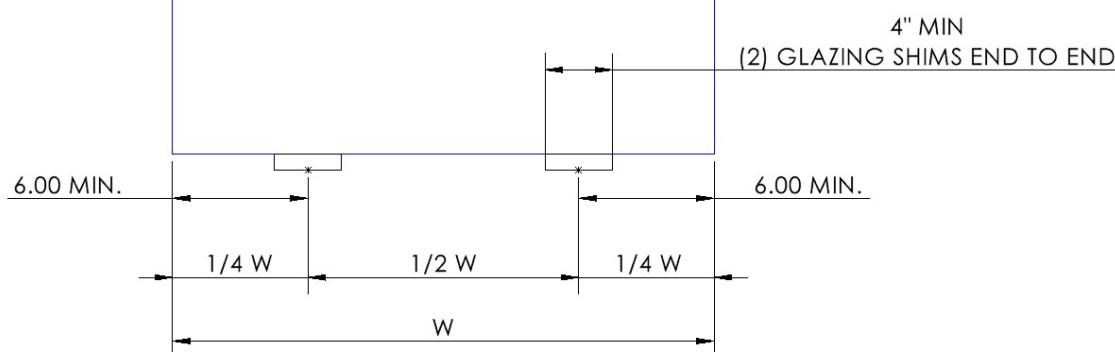

Figure 20
16. Set the Insulated Glass on two (2) pairs of setting blocks positioned at 1/4 points in opening as shown in Figure 20. Setting blocks are not to be placed closer than 6" from the edge of glass.